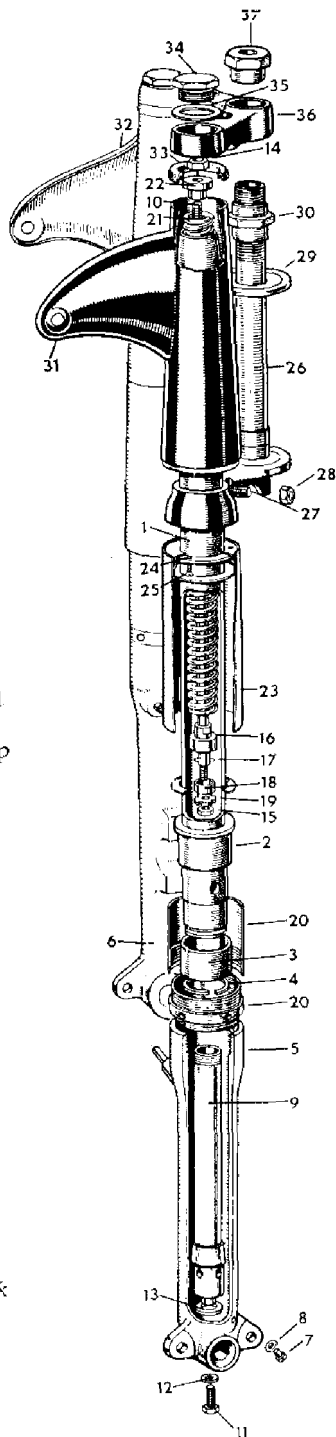

FIG. 116
Lubrication. Use one of the grades of oil, S.A.E. 20 as shown in the table of lubricants. The normal oil content is five fluid ozs. (142 cc). Attention is only necessary at the first 1,000 miles and again at 10,000 miles when the oil should be changed by draining. An exploded drawing of the front forks is shown in (Fig. 116) from which it will readily be seen that the fork springs abut against the filler plugs (34), before removing these plugs weight must be taken off the front wheel, by placing the machine on its central stand to avoid the forks collapsing.
The damper tube with the fork spring can be extracted from the tube. To dismantle further, take off nut securing fork spring, unscrew the damper tube cap (16) with a tommy bar through the holes in the damper tube, for if this is held in a vice it will distort and become useless. The damper assembly sequence is clearly depicted in Fig. 116.